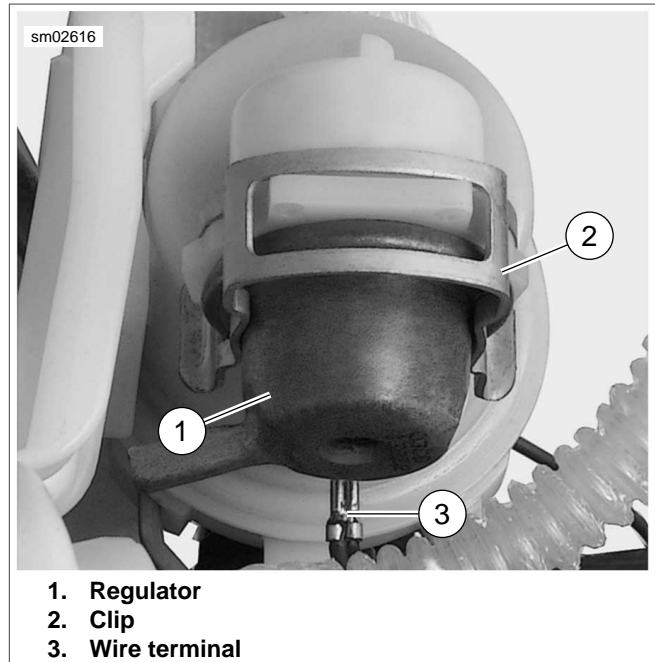

Figure 4-43. Regulator
1. See Figure 4-43. Remove wire terminal (3).
2. Disengage clip (2) from regulator.